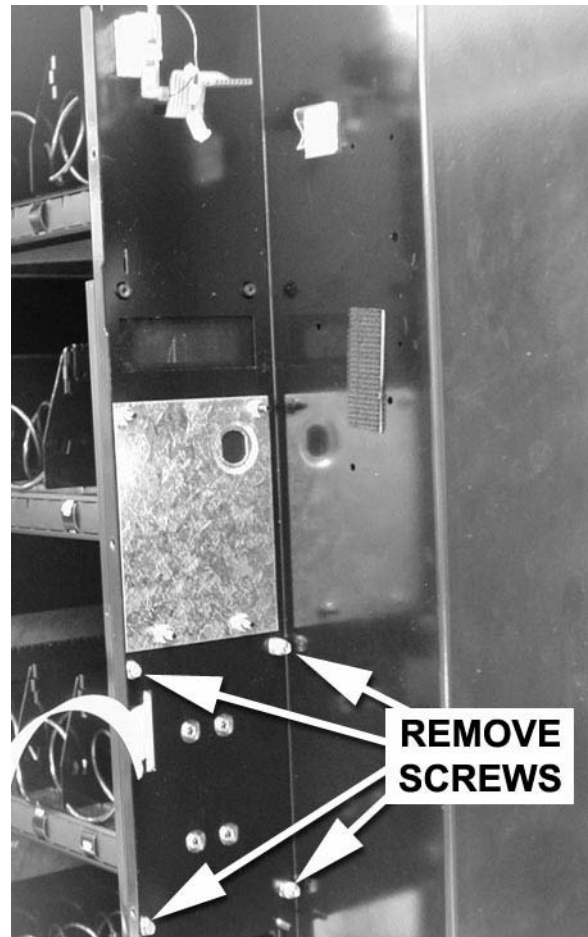

Figure 14
3. Remove 4 screws and cup spacers See (figure 14). Save them for later use.